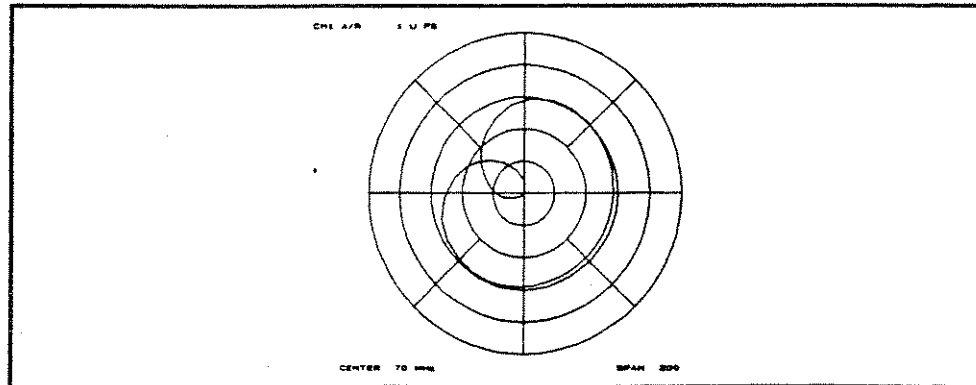

Figure 9-15. Polar Format
**POLAR** (POLA) displays a polar format (Figure 9-15). Each point on the polar format corresponds to a particular value of both magnitude and phase. Quantities are read vectorally: the magnitude at any point is determined by its displacement from the center (which has zero value), and the phase by the angle counterclockwise from the positive x-axis. Magnitude is scaled in a linear fashion, with the value of the outer circle usually set to a ratio value of 1. Since there is no frequency axis, frequency information is read from the markers.